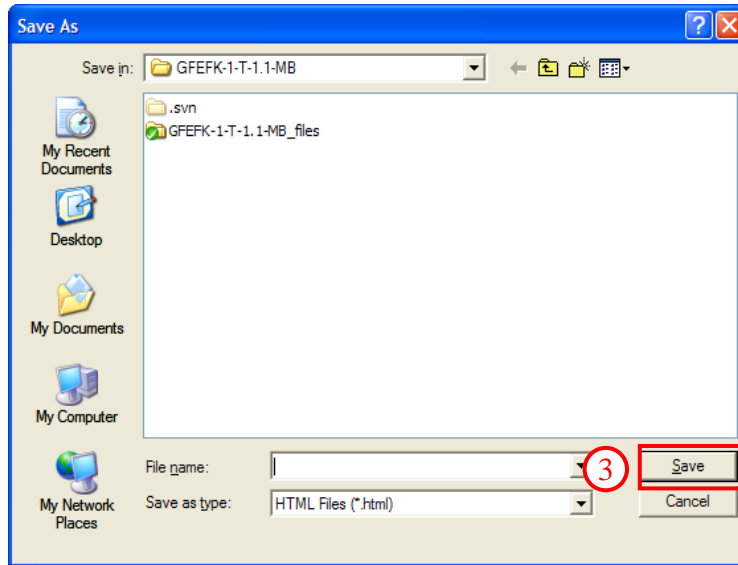

Figure 89. Archive Class - Save As Dialog
3. A Save As dialog box is displayed (Figure 89). Navigate to the desired save location, enter a File name and click the [SAVE] button.